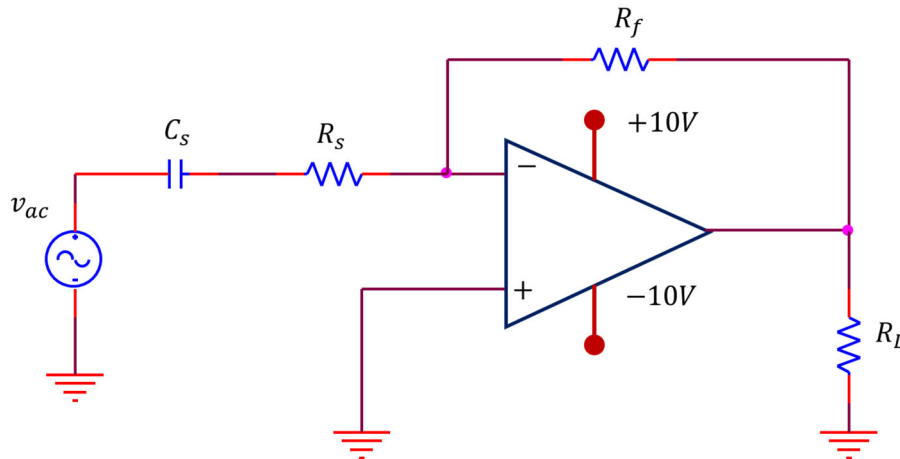

Figure 3: First order active high pass filter for part 1
- 1.5 Now, change your circuit so that it is an active high pass filter shown in Figure 3 with $R_S = 100\text{ k}\Omega$, $C_S = 10\text{ nF}$, $R_f = 200\text{ k}\Omega$ and plot the filter response to an AC input from 1 Hz to 1 MHz. **Q4: What are the in-band gain and f_c of the circuit? Q5: Why does the output roll off at high frequencies, if this is a high-pass filter??**